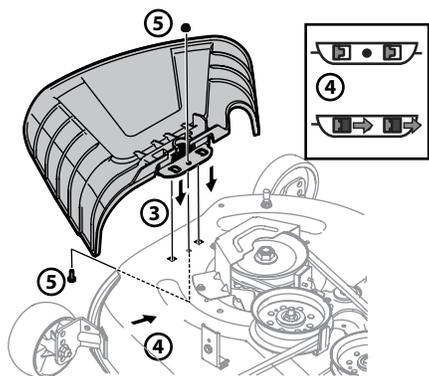

Figure 2-13
- Place the chute deflector on the deck, be sure to insert the tabs on the chute deflector into the holes on the deck. See Figure 2-13.
- When the tabs are installed in the deck, slide the chute deflector toward the rear of the tractor until the bolt hole in the chute deflector aligns with the hole in the deck. See Figure 2-13.
- Secure the chute deflector in place with the flange lock nut and hex screw removed in step 2. Tighten to 102-124 in-lbs. See Figure 2-13.